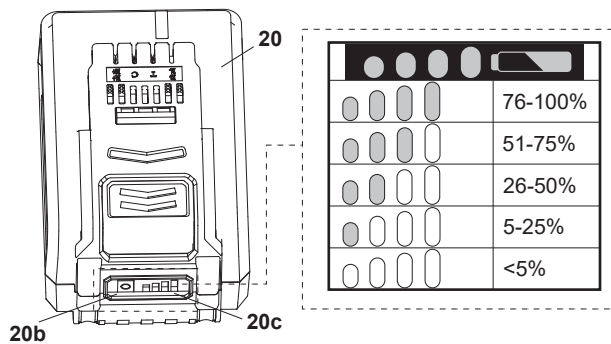

Fig. 8
The battery pack (20) is equipped with the battery capacity indicators (20c) which are used to give an indication of the battery pack's remaining capacity. Press the battery capacity button (20b) to check battery capacity (Fig. 8). The LEDs will stay lit for approximately 5 seconds.